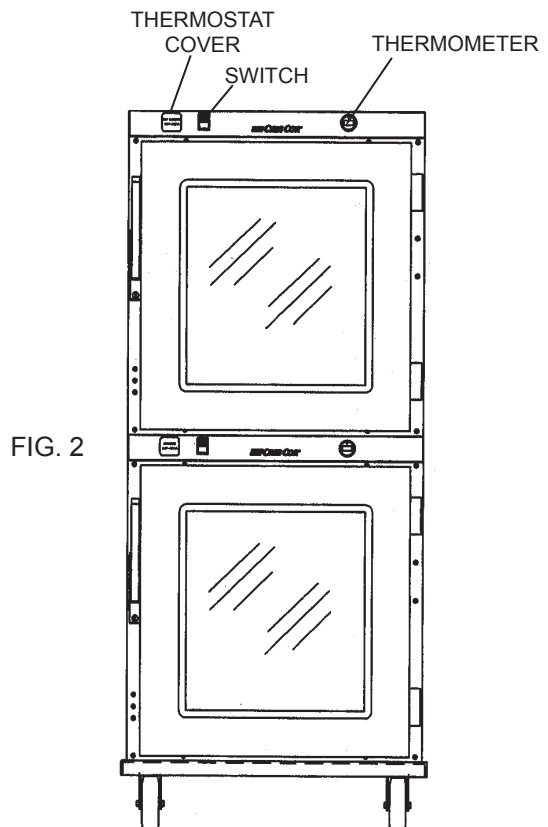

FIG. 2
**HOW TO OPERATE UNIT: (Figure 2)**